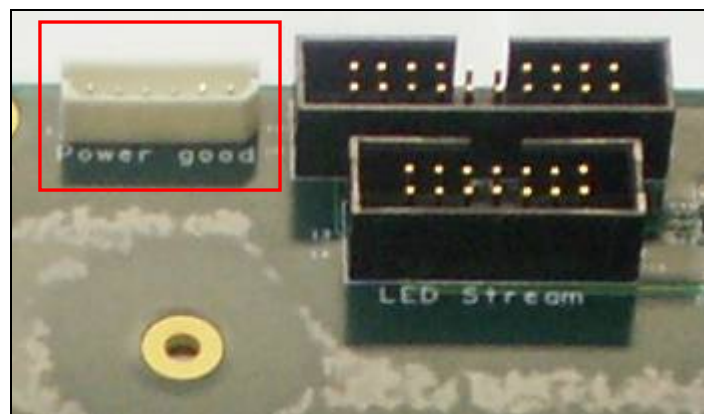

Figure 15: External Power Supplies
11. External Power Supplies (see Figure 15)